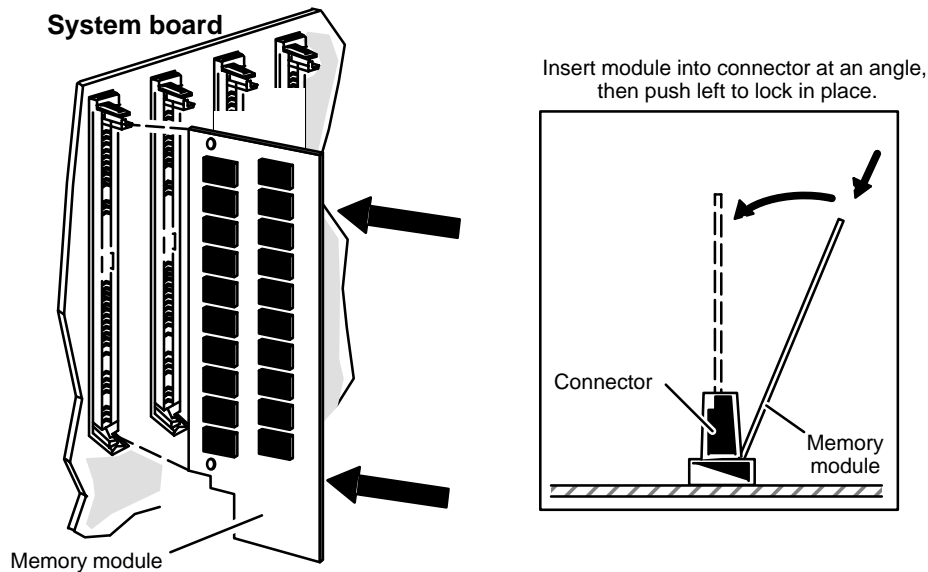

Figure 8-6 Installing the Memory Module in the Connector
- Position the memory module in the connector at approximately a 20° – 30° angle as shown in Figure 8-6, and then *gently* push the top of the module left towards the perpendicular. You will hear a click as each connector tab locks the module into place.